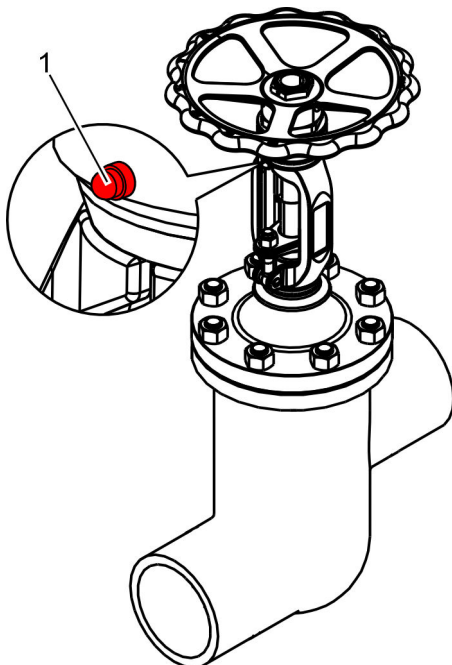

Fig. 25: Version with lubricating nipple
- Grease stem thread and bearing via lubricating nipple (Fig. 25/1).